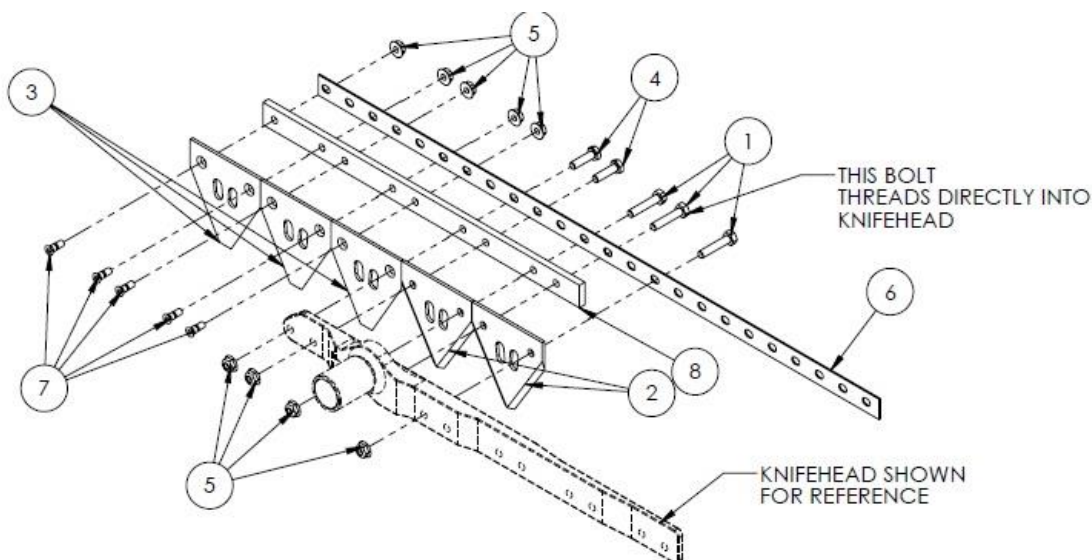
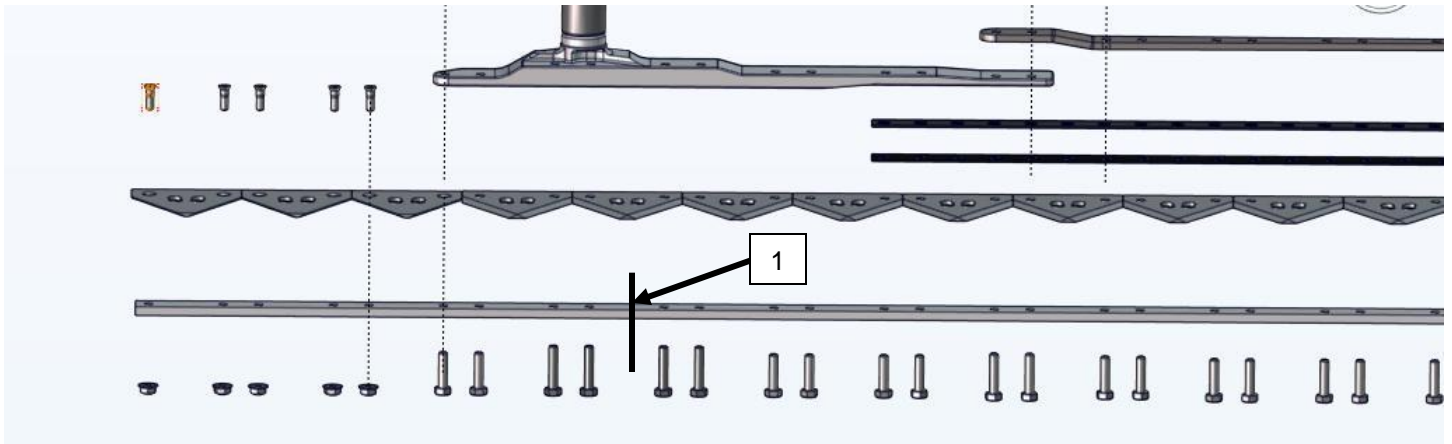
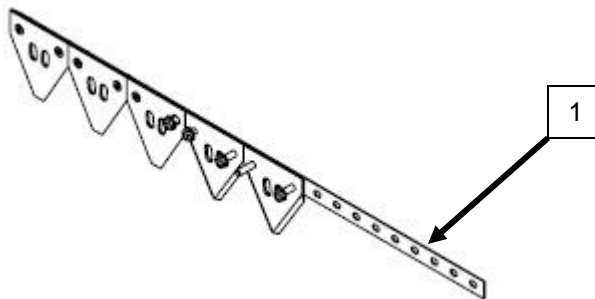

Figure 1
Figure 2
Figure 3
- Cut the knife-back in the middle of section 5, 1 Figure 2. Make certain that the knife-back is cut far enough to install the connector bar (item 8 figure 1). The connector bar is 13 15/32" long
- Install the reinforcement strap, 6 figure 1, on the underside of the knife-back and use hardware in sections 6 through 9 to hold in place, at 1 Figure 3